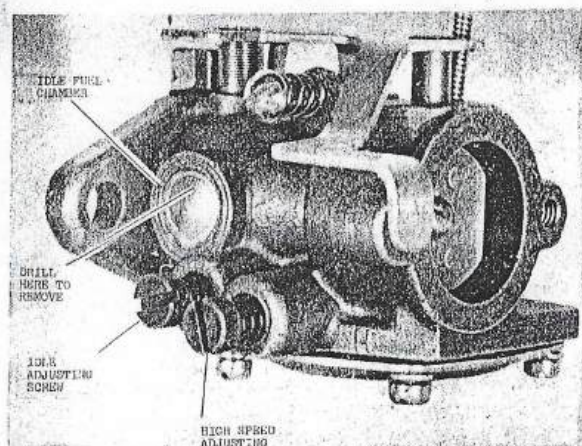

Figure 11
Figure 11 shows a close-up view of the Power Products carburetor. Follow the steps below for proper adjustments:
2. High speed adjustment: turn the high speed screw in finger tight in a clockwise direction. Then, back out high speed screw the same number of turns as the idle screw - one (1) complete turn if the idle screw was knurled and 5/8 of a turn if it was smooth.
4. If the carburetor is extremely dirty, the Welsh plug can be removed. To remove this plug, drill near the top and then pry out. (See Figure 11.)